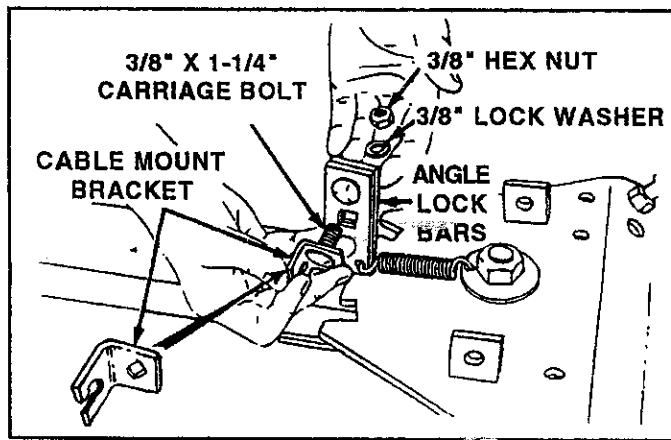
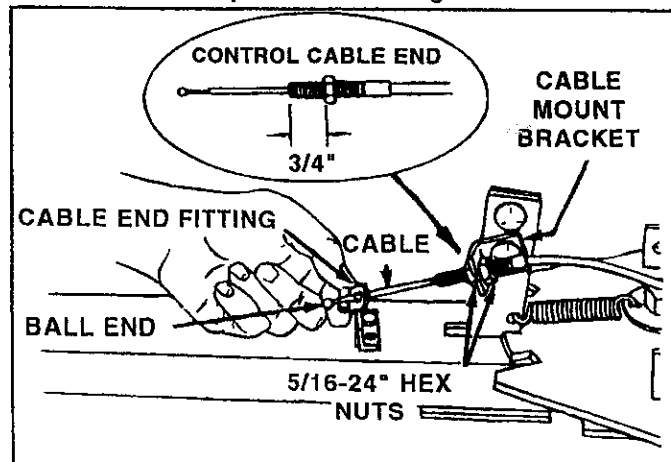

FIGURE 6
FIGURE 7
- Assemble 3/8" x 1-1/4" carriage bolt through square hole in cable mount bracket and through square hole in lock bars. See figures 6 and 7. Hold cable mount bracket in position as shown in figure 7 and secure with 3/8" lock washer and 3/8" hex lock nut.
- Assemble one 5/16-24" hex jam nut onto threaded end of control cable approximately 3/4" from end. Assemble threaded cable end through round hole in cable mount bracket and secure with another 5/16-24" hex jam nut. See figure 7.
- Assemble ball end of cable through round hole in cable end fitting and into slot of fitting. See figures 7 and 8.